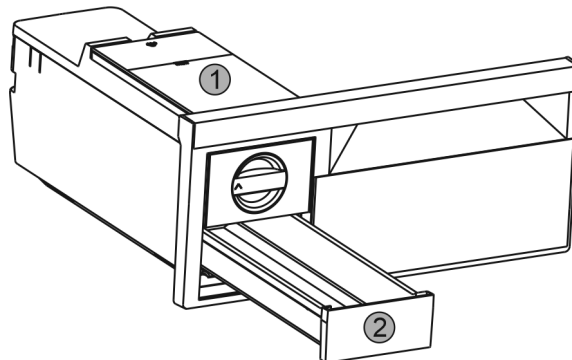

Fig. 36
- Take out the water tank Fig. 36 (1) and ice cube drawer Fig. 36 (2).